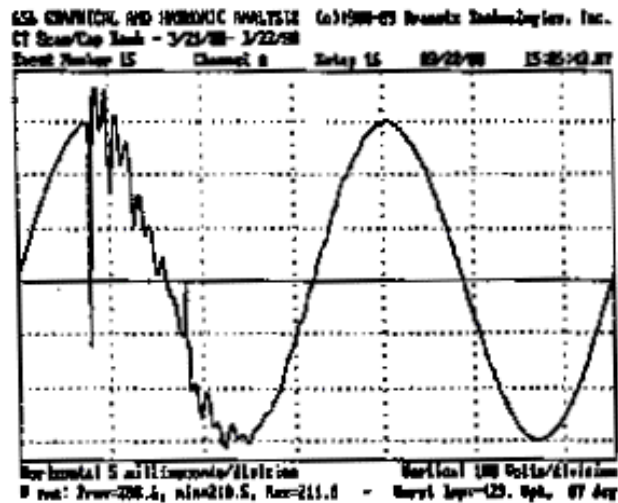

Figure1: Power Factor Capacitor Bank Switching Measured at the Service Entrance
**Measurements:** Data was taken at the service entrance of the building (Figure 1) and at the output of the isolation transformer (Figure 2).